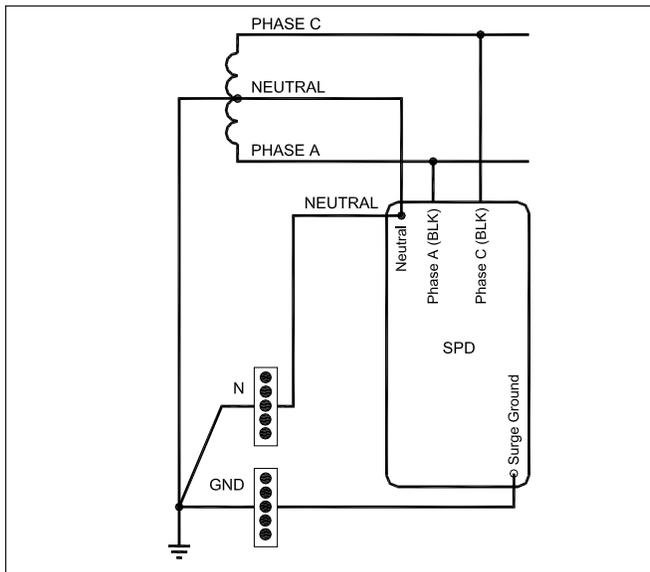

Figure 8. Split Phase Units
5. Select the correct wiring diagram for the SPD you are installing. You must refer to this diagram while wiring the SPD. See Figures 8 - 13. SPD Series Type 1 and Type 2 units do not require over current protection devices, fuses or circuit breakers to operate correctly. All local and national electric codes must be followed during installation and these codes may require protection of the conductors leading to the SPD unit.